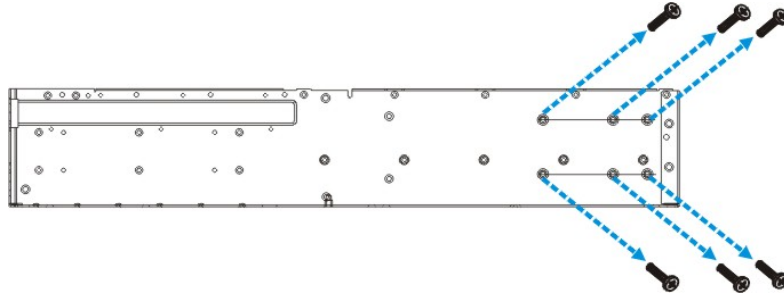

Figure 2-2: Enclosure Side Mounting Holes (1)
- Integrators may design their own brackets or slide rails using the twenty-two (22) mounting holes on the sides of chassis.
- There are six (6) mounting holes with six (6) M4 nuts near the end of the chassis on each side. Shown below are the locations of these mounting holes. (See the arrow marks in **Figure 2-2**). See the next diagram for another group of mounting holes on a horizontal line.